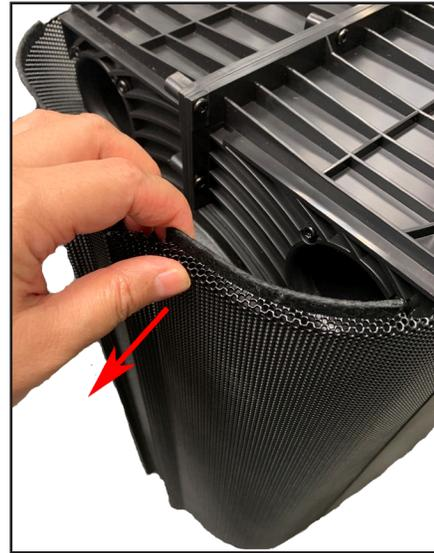

Figure 10. Grille Removal
2.2 Pull the Grille out gently. Figure 10.